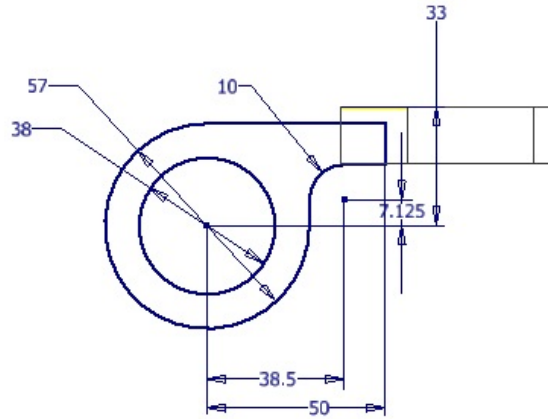

Figure 9-97 Sketch for the extrusion feature
9. Create the sketch for extrusion feature, as shown in Figure 9-97 and exit the Sketching environment. The model in this figure is displayed in wireframe for clarity of the sketch.